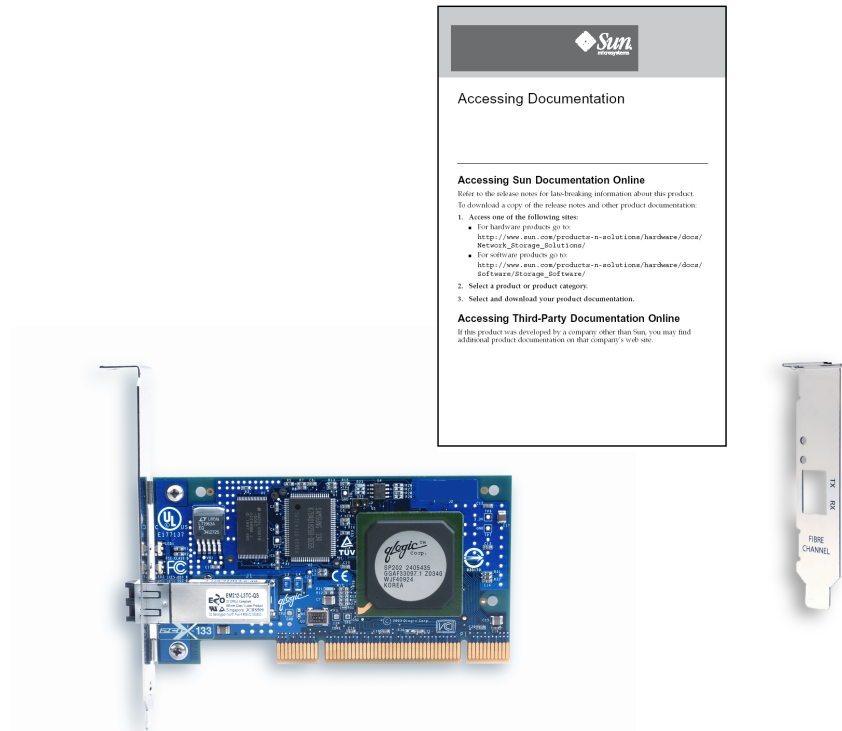

FIGURE 1 HBA Packaging Contents
- **Verify that the Sun StorEdge 2 Gb FC Entry-Level PCI-X Single Channel HBA is shipped with the following items (see FIGURE 1):**